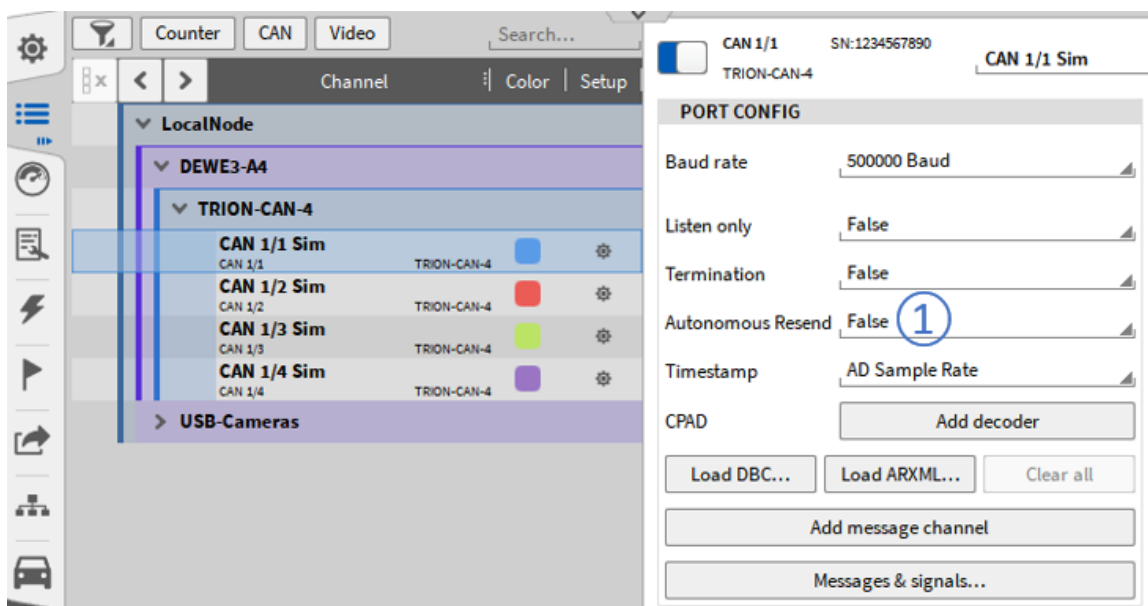

Fig. 7.214: Autonomous resend option
The Autonomous Resend option (see ① in Fig. 7.214) provides the following functionality for CAN buses which transmit data: